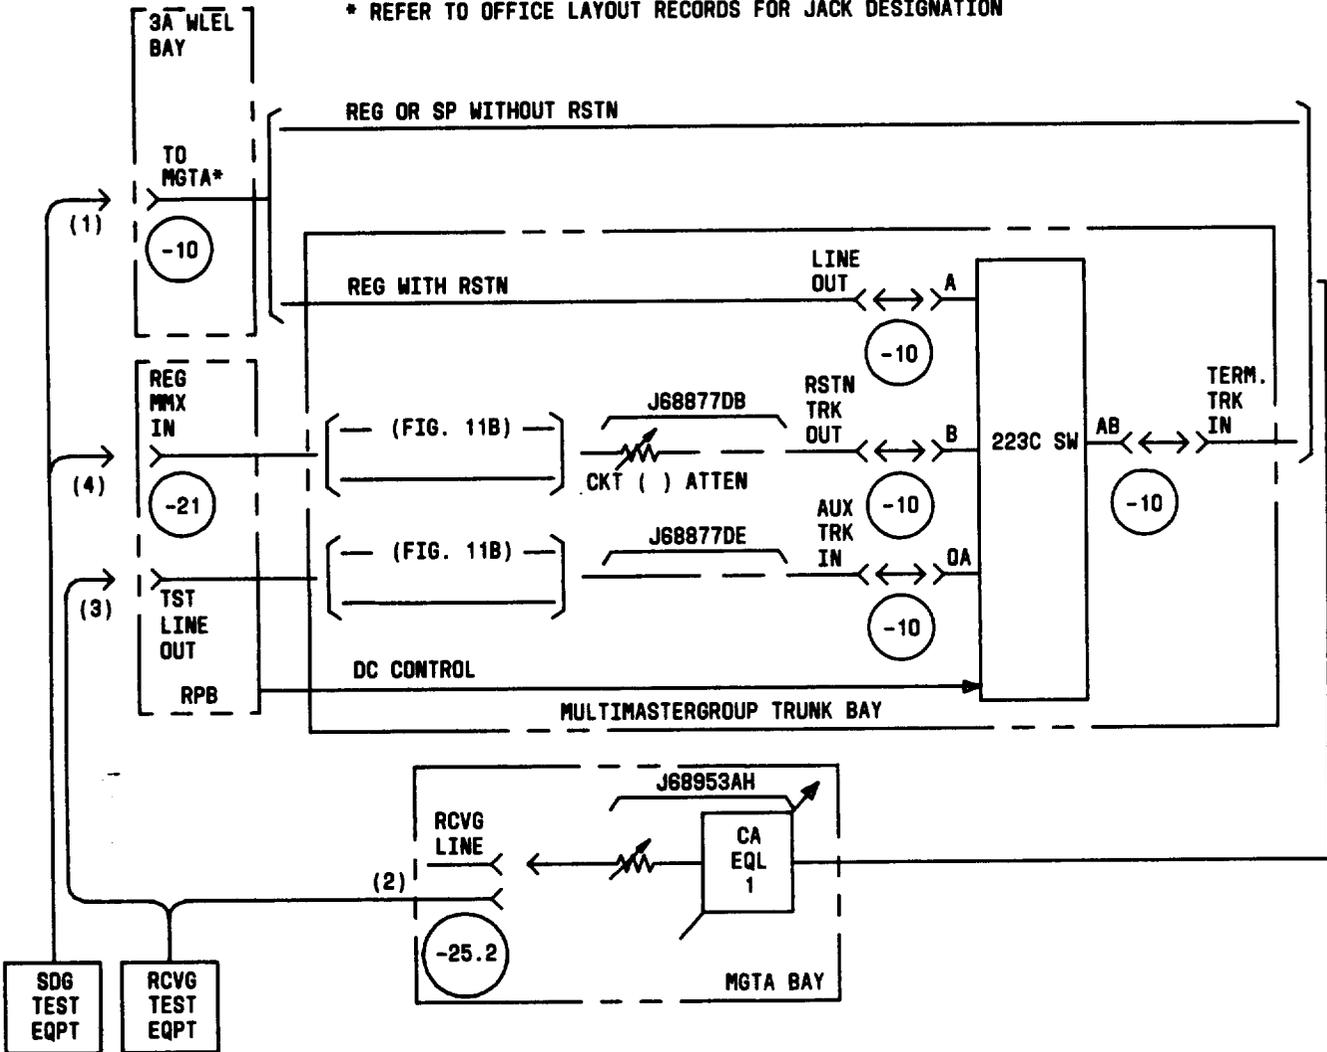

Fig. 10—Receiving Trunks for MGTA
- 26 Connect the STE to the appropriate **TO MGTA** jack in the WLEL bay [patch (1), Fig. 10].
- 27 Connect the RTE to the plug removed from the RCVG LINE jack in the MGTA bay [patch (2), Fig. 10].
31	Remove patch (2), Fig. 10
33	Make patch (3), Fig. 10.  Note: The operated 223C switch completes a signal path between the A and 0A jacks on the switch.
35	Proceed to Step 36 if the requirement is met. Otherwise, continue signal tracing to locate and clear the trouble. Then repeat Steps 32 through 34.  Note 1: Two zero-loss trunks (Fig. 11B) may be used in conjunction with this trunk. In this case, the zero-loss trunks should be tested as prescribed in Chart 10B. The zero-loss trunks are indicated in Fig. 10 by the designation Fig. 11B.  Note 2: Chart 12 is a procedure for checking the cable equalizers in the J68877DB, J68877DE, and J68953AH panels.
37	Remove patches (1) and (3), Fig. 10.
39	Connect the STE to the REG MMX IN jack in the restoration patch bay [patch (4), Fig. 10].
40	<p>Connect the RTE to the plug removed from the RCVG LINE jack in the MGTA bay [patch (2), Fig. 10].</p> <p>Note: The operated 223C switch completes a signal path between B and AB jacks on the switch.</p>